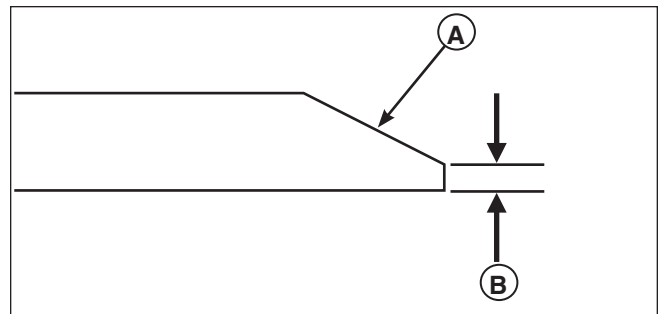

Figure 17. Sharpening the Mower Blade
3. Keep the original bevel (A, Figure 17) when grinding. DO NOT change the mower blade bevel.
4. The mower blade should have a maximum 1/64" (0,40 mm) cutting edge (B) or less.